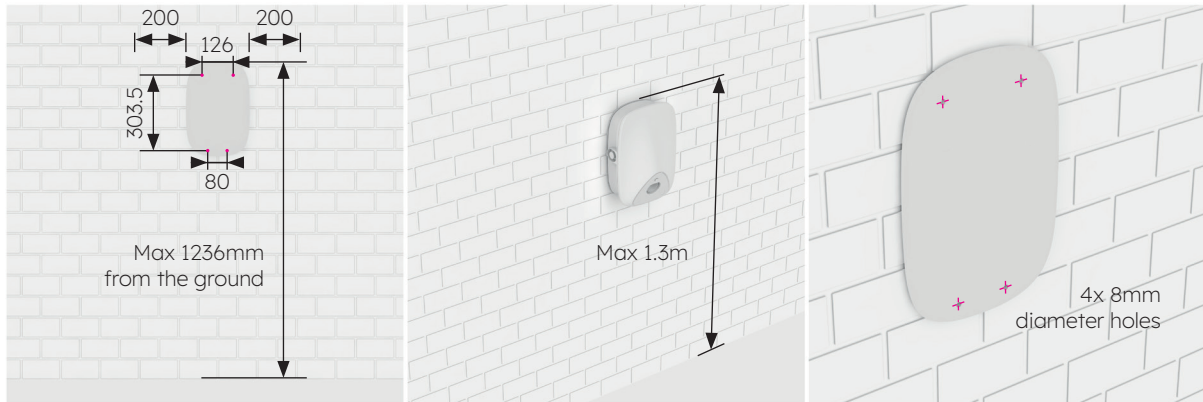

Figure 13 Marking drill holes
1. Confirm the installation position. A distance of 1-1.3m between the top of charging station and the ground is recommended. Confirm the levelness of template with a level. Then mark the drill holes with a pencil, as shown in Figure 13. A maintenance distance or at least 200mm is recommended on each side of the charger, as shown in Figure 13